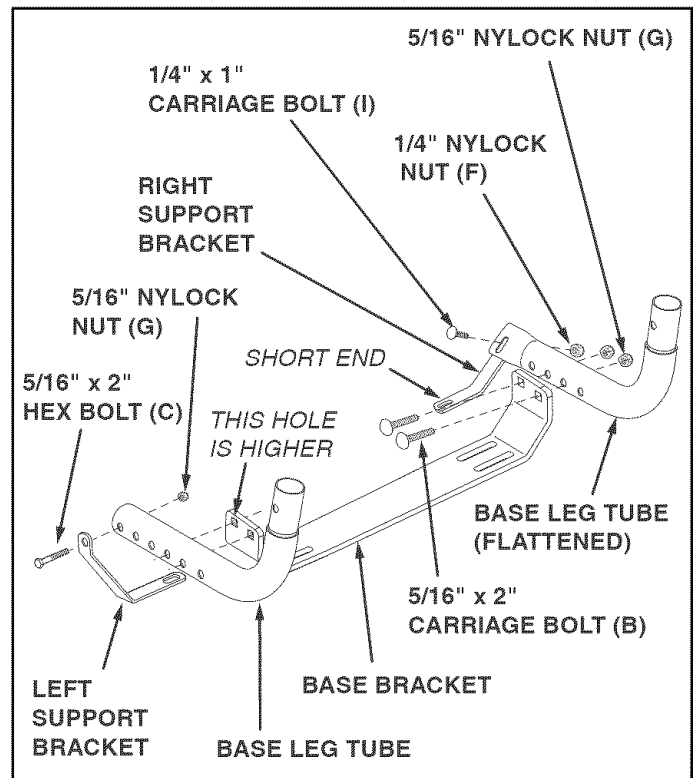

FIGURE 2
STEP 2: (SEE FIGURE 2)
- Attach the right side of the base bracket to the middle two holes in the flattened base leg tube using two 5/16" x 2" carriage bolts (B) and 5/16" nylock nuts (G). **Make only finger tight.**
- Attach the left side of the base bracket to the fourth and fifth holes in one of the base leg tubes using two 5/16" x 2" carriage bolts (B) and 5/16" nylock nuts (G). **Make only finger tight.**
- Attach the long end of the right support bracket to the outside of the flattened end of the right base leg tube using a 1/4" x 1" carriage bolt (I) and 1/4" nylock nut (F). **Make only finger tight.**
- Attach the left support bracket to the outside of the left base leg tube using one 5/16" x 2" hex bolt (C) and 5/16" nylock nut (G). **Make only finger tight.**